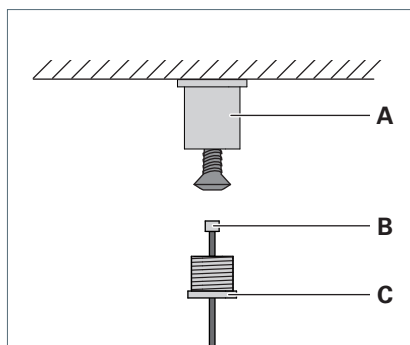

Fig. 10: Mounting the ceiling fixture.
- Screw the sleeve **A** to the ceiling using a suitable screw, see Fig. 10.